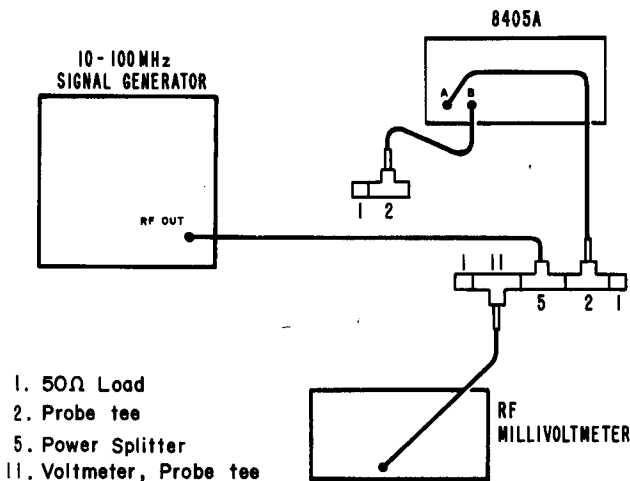

Figure 2. Voltage Accuracy Check (1 to 100 MHz)
- a. With signal source set to minimum, connect test equipment as shown in Figure 2. Allow one-hour warmup.